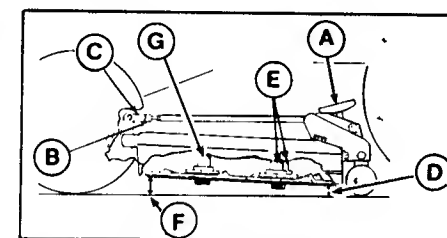

Figure 39. Level Mower
2. Turn both mower height adjustment handles (A, figure 39) fully clockwise to the highest cutting height position.
3. Rotate the mower blades so the tips point straight forward and backward as shown in figure 39.
- Loosen the jam nuts (B, figure 39).
- Remove the cotter pins and then disconnect the eyebolts or yokes (C, figure 39) from the mower hitch.